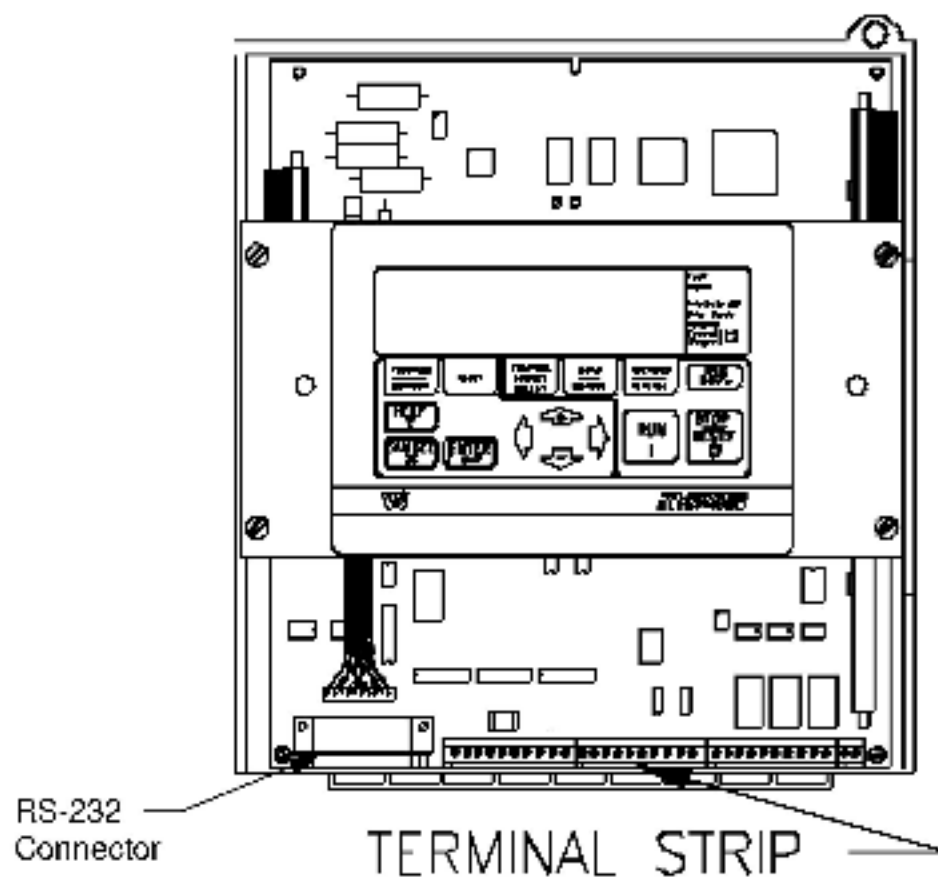

Figure 2.25 – Location of Regulator Board Terminal Strip
- Step 2. Locate the terminal strip (1 to 32) at the bottom of the regulator board. See figure 2.25.